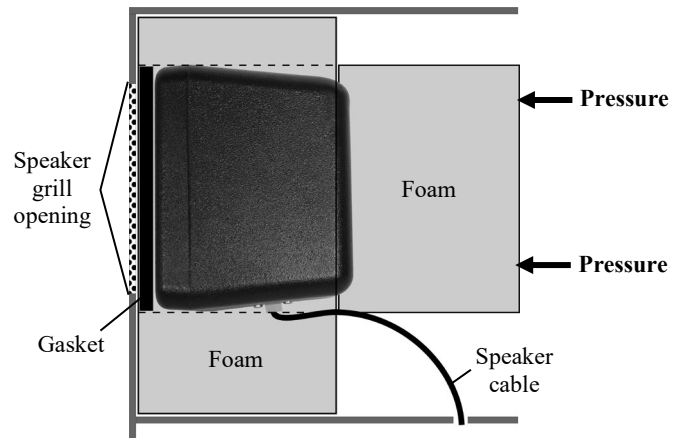

Figure 2. SP10 in speaker post, menu board or enclosure
- Position the speaker inside the speaker post or menu board, with the gasket centered against the inside of the speaker grill as shown in Figure 2. The cable connector can be on the bottom or on either side. Align the opening in the gasket with the grill opening.
- Place foam around the sides and back of the speaker as shown in Figure 2.